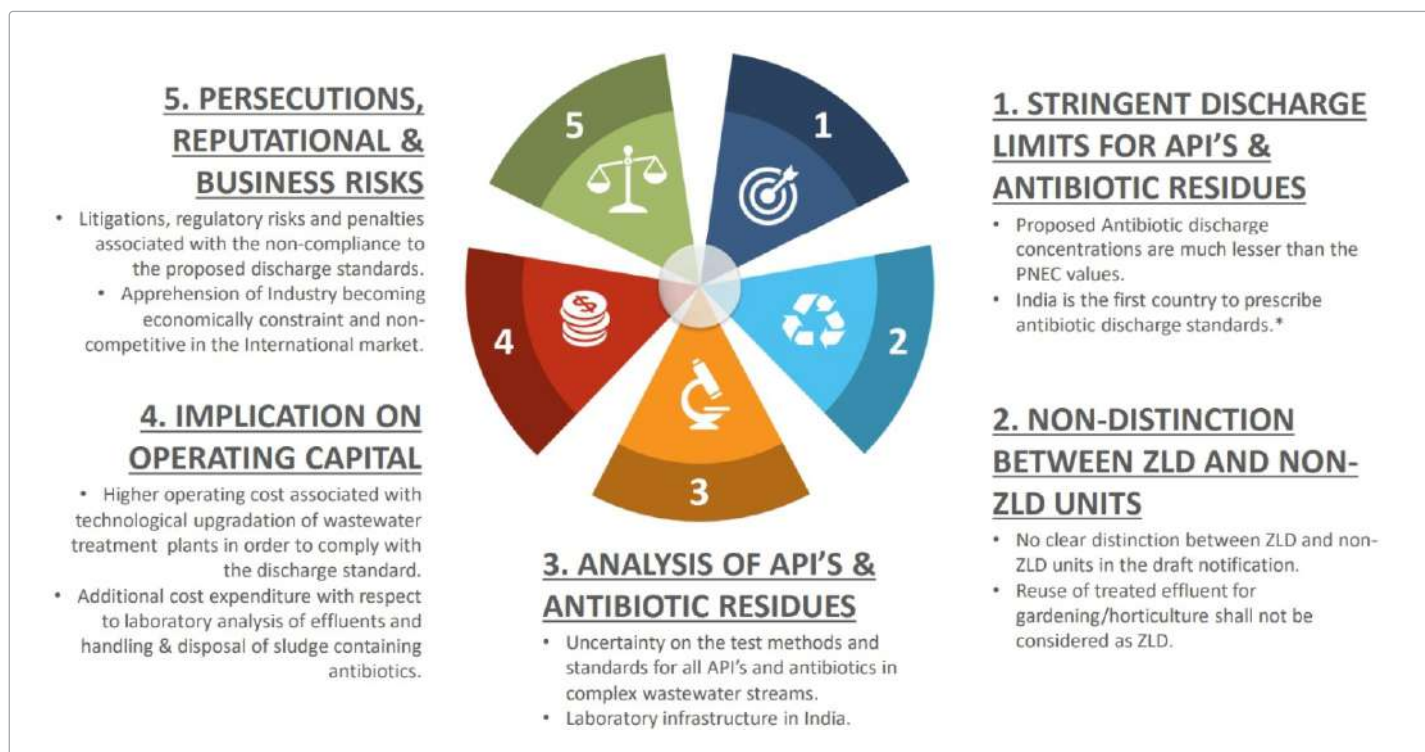

Fig.8. Key Challenges and Ramification for the Indian Pharma Industry (17)
7-7. A pictorial view of these vs the draft standards of 2020 is presented by Shivananda Shetty and Mugundan Ramachandran (17) under the aegis of the Pharmaceutical Supply Chain Initiatives (PSCI) and reproduced in Fig.8 which further illustrates the "quests" with no validated answers.